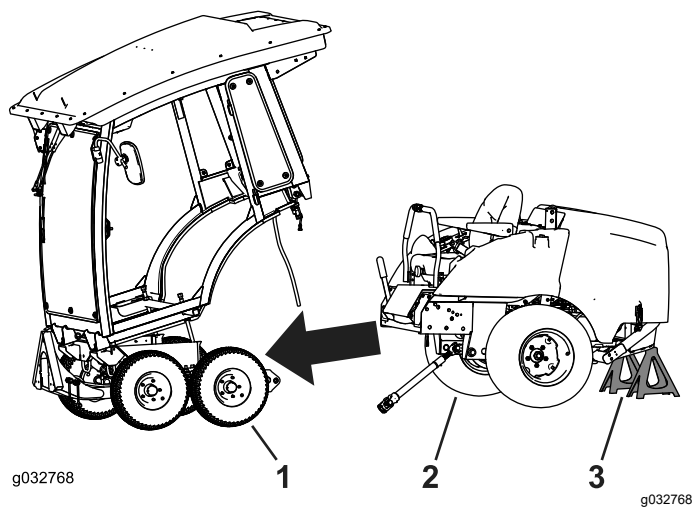

Figure 118
8. Roll the winter frame away from the machine frame (Figure 118).